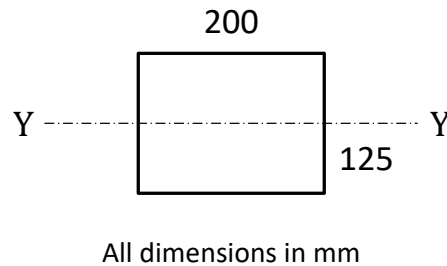

Fig. Q3
3. If a beam has a rectangular cross-section, as shown in Fig. Q3, a yield stress, $\sigma_y = 207 \text{ MPa}$, and is subjected to a pure bending moment of 50 kNm , about the $Y - Y$ axis, does yielding occur?